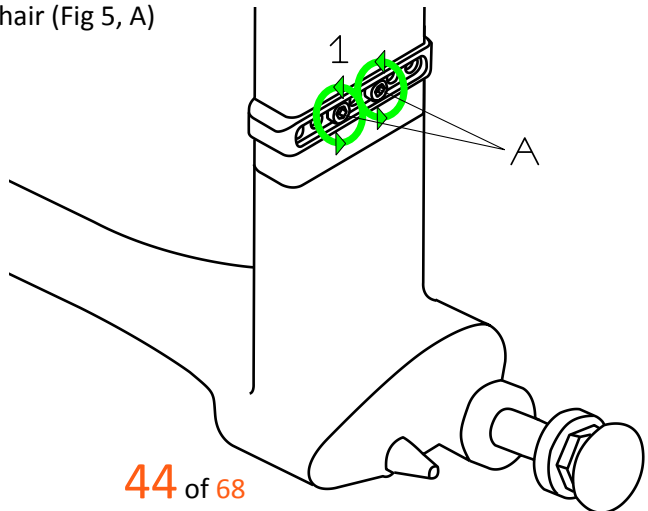

Figure 5
- Loosen two Allen (Hex) screws on each side of the wheelchair (Fig 5, A)